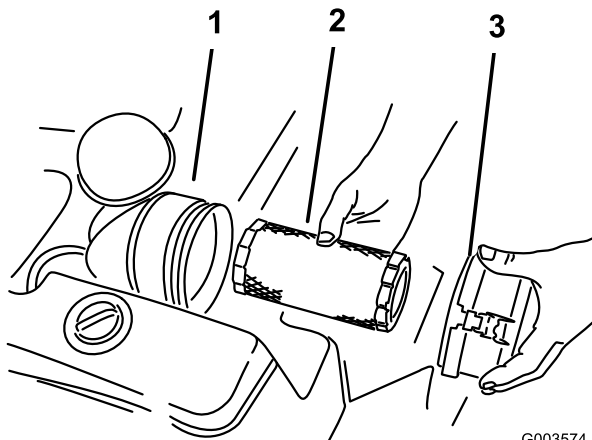

Figure 3
4. Remove the air cleaner cover and filter (Figure 3).